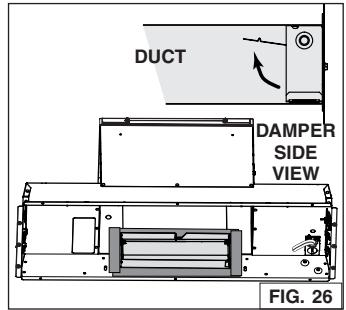

FIG. 26
4. From inside the unit, slide the 3 1/4" x 10" adapter/damper in the horizontal duct, then attach it to the unit using aluminum duct tape all around the joint (FIG. 26). Ensure the damper opens as shown in damper side view.